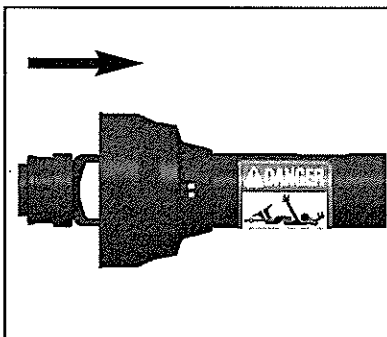

FIG. 7 - RETRACT RING FOR INSTALLATION
STEP 12: Make sure the tractor engine is shut off, then connect the driveline to the tractor PTO. The drive shaft locks on with a retractable retaining ring coupling device. Slide the ring back for installation (see Fig. 7).